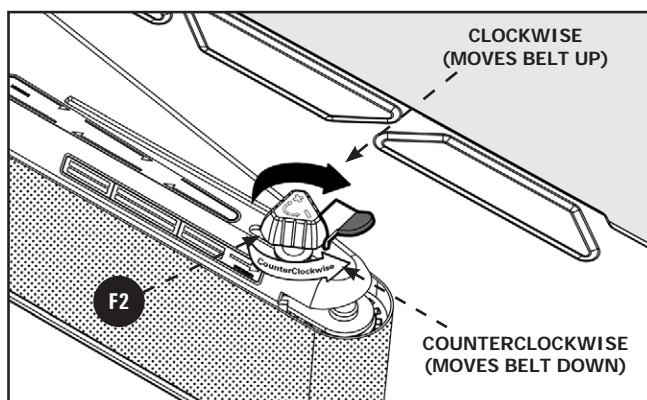

FIGURE 12
5. If the sanding belt runs down towards the table, turn the tracking knob **F2** clockwise 1/4 turn. See Figure 12.